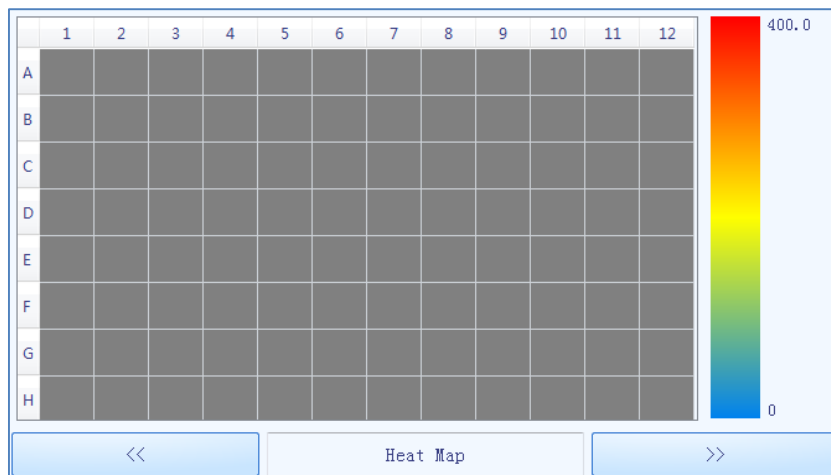

Figure E-5.3 Run Monitoring Diagram - Heat Map
- c. User can press key below the run monitoring diagram to monitor the fluorescence **Heat Map** of the current experiment, as shown in figure E-5.3.